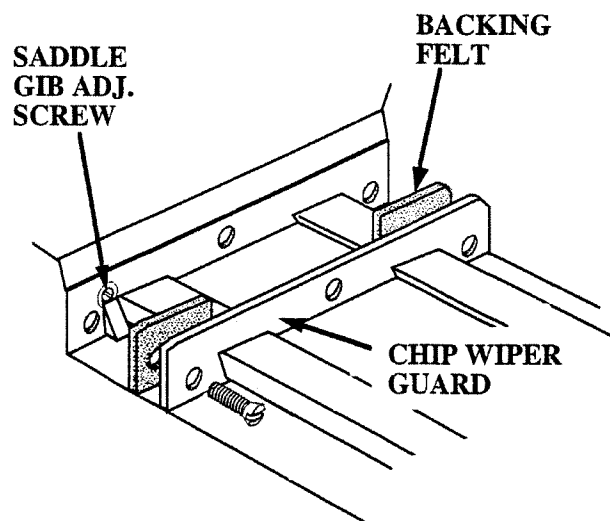

Figure 9-10. Adjustment of Saddle and Knee Gibs
9.10 ADJUSTMENT OF SADDLE AND KNEE GIBS (Figure 9-10)